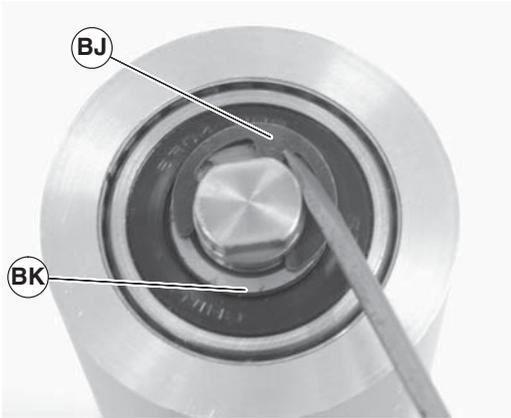

Figure 48
- Remove the pulley shaft assembly: remove the clip ring (Figure 48, item BJ) and washer (BK) from one side of the pulley assembly.